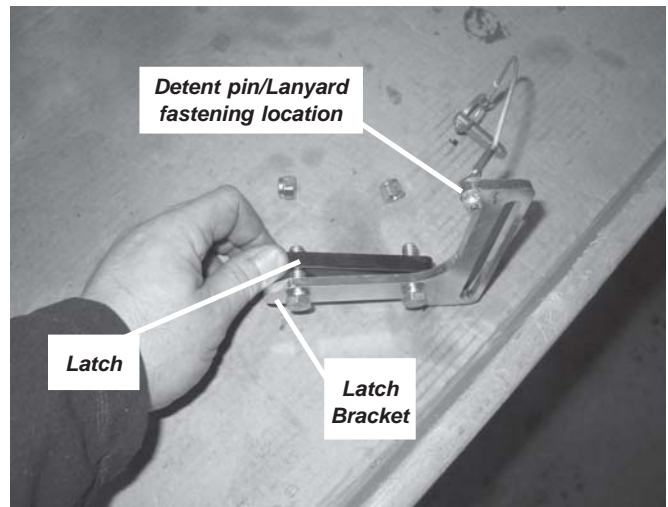

Figure 16 Latch assembly left hand side.
19. Next, attach the detent pin and lanyard to the outer plate with a #10 dia x 5/8" long bolt and terminate with a #10 nylon lock nut. See Figure 16.
20. Attach one of the latches to a latch bracket. Use two 3/8" dia x 1-1/4" long bolt and 3/8" nylon nuts. See Figure 16 and 17 for part orientation for right hand and left hand latch assemblies.